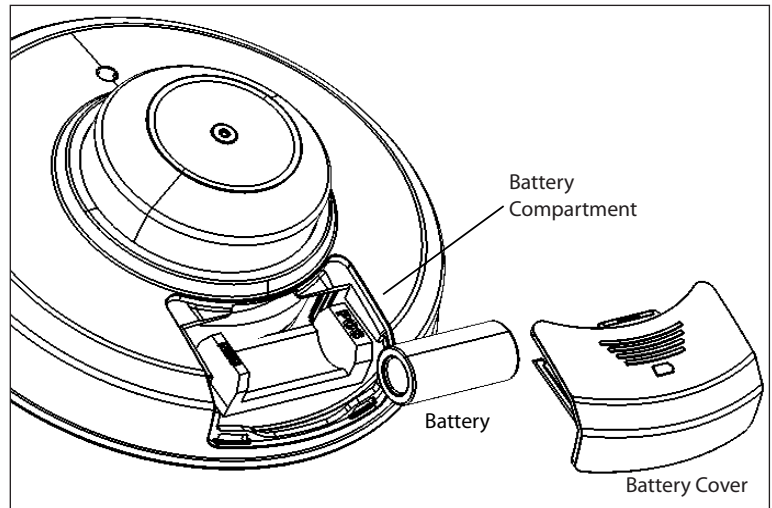

Figure 4: Battery Compartment
1. Slide the battery compartment cover away from the detector to unsnap it and lift it off. See Figure 4.